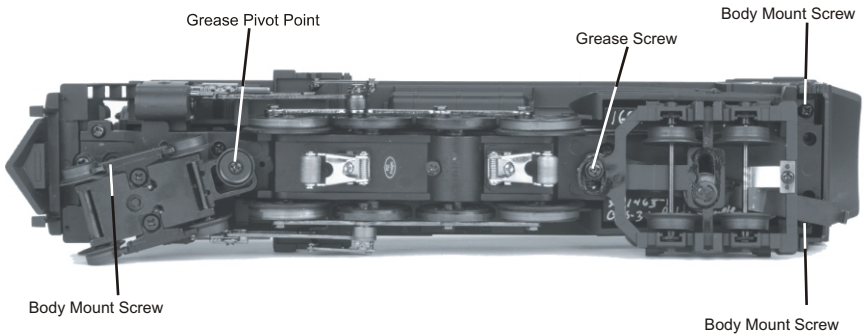
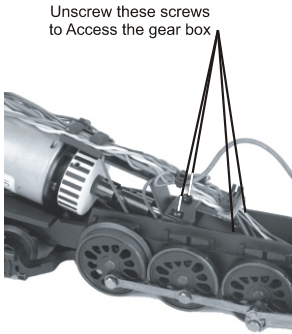
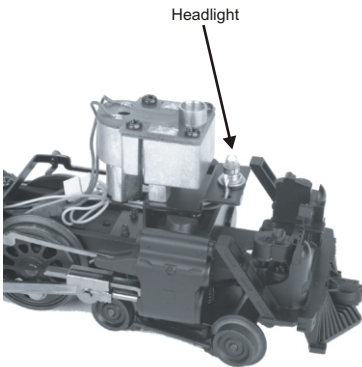

Figure 6. Removing the Body and Lubricating the Grease Points
Figure 7. Motor Gearing Grease Plate Screws
Figure 8
2. Remove the boiler by removing the body mounting screws shown in Fig 6
3. Remove the Phillips screw (marked “GREASE”) located at each set of wheels (Fig. 6) and the gearbox cover screws (Fig 7).
You should also grease the leading and trailing locomotive truck tongues to enhance their ability to slide on the chassis. Follow the grease points shown on Fig. 6.
1. To replace the headlight in this model you will need to follow the disassembly instructions for greasing the engine in figure 6 on pg. 13. Once the boiler has been removed you can access the headlight (see figure 8).
If you experience poor or no smoke output when the smoke unit is on and has fluid, check the wick to see if it has become hard, blackened, and unabsorbent around the heating element. To remove the smoke unit you will first have to remove the boiler shell (by removing the body mounting screws shown in Fig 6 on pg. 13). To do this, follow these instructions: